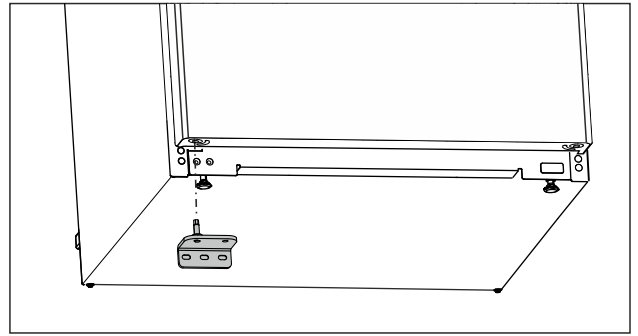

Fig. 16
- ▶ Insert the lower swap bearing block on the opposite side. (see Fig. 16)